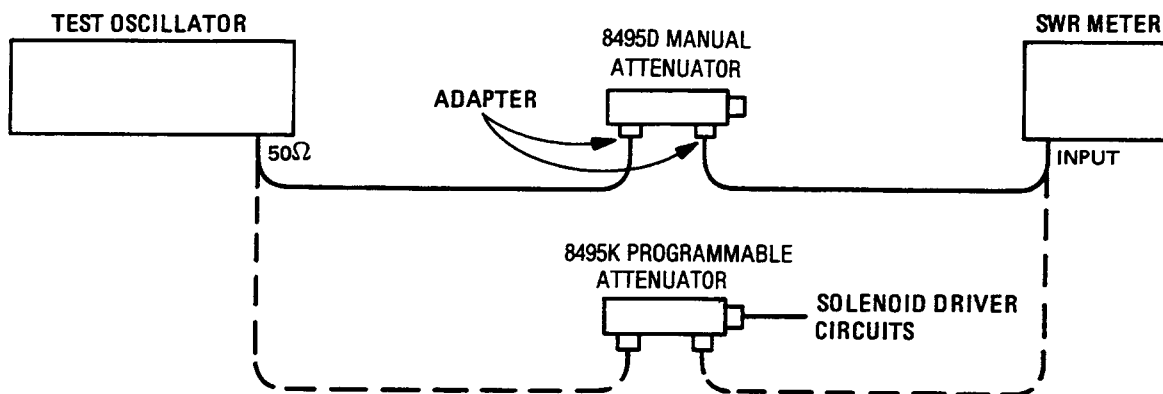

Figure 4 Operator Check Setup
1. Connect equipment as shown in Figure 4 with the attenuator set to 0 dB.